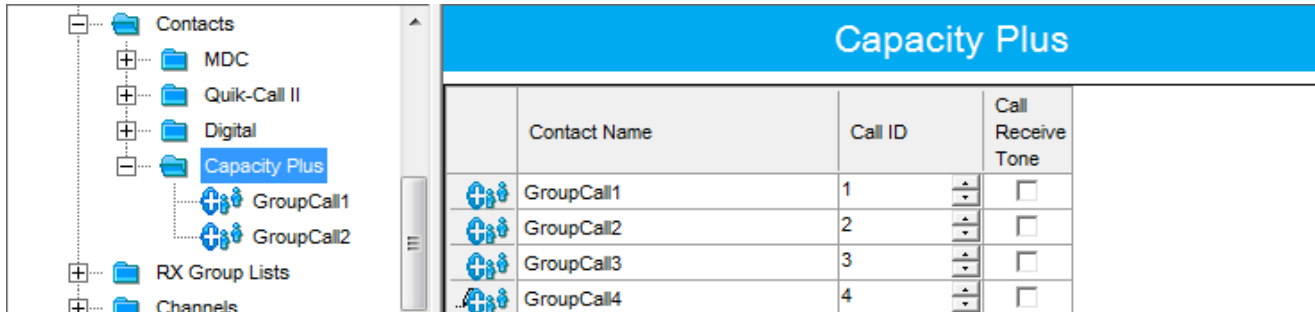

Fig. 12 - Adding groups in the Contacts tab
2. In the **Contacts** tab add subscriber groups to the contact list. Set unique **Call ID** for each group (Fig.12).